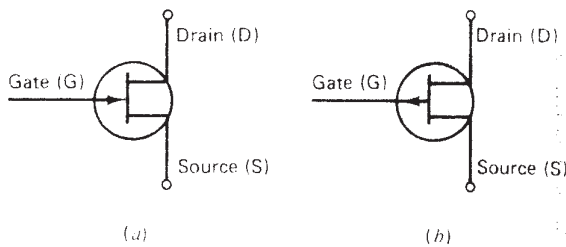

Fig. 57-2. (a) N-channel FET. (b) P-channel FET.
1. Use an ohmmeter on the $R \times 1000$ range and measure $S - G$, $G - D$, and $S - D$ in both directions of lead polarity. Record results in Table 57-1. A diode junction should be indicated when measuring $S - G$ and $G - D$. The polarity of the JFET should be indicated by the forward-bias indication of the ohmmeter. A P channel will require a positive-ground, negative-drain potential. An N-channel JFET will require a negative-ground, positive-drain potential. See Fig. 57-2 for the correct lead orientation for N- and P-channel FETs.